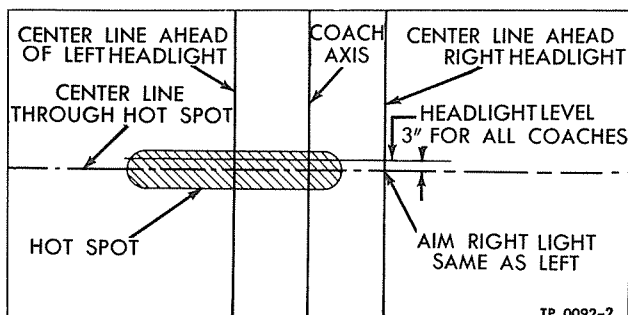

Figure 3—Headlight Beam Pattern
5. Beam pattern should approximate that shown in figure 3. A distorted beam pattern is usually caused by a sprung reflector in which event sealed beam unit must be replaced.
Taillights are mounted in housings attached to engine compartment side doors, as shown in figure 3 in Operation (Sec. O, of this manual).